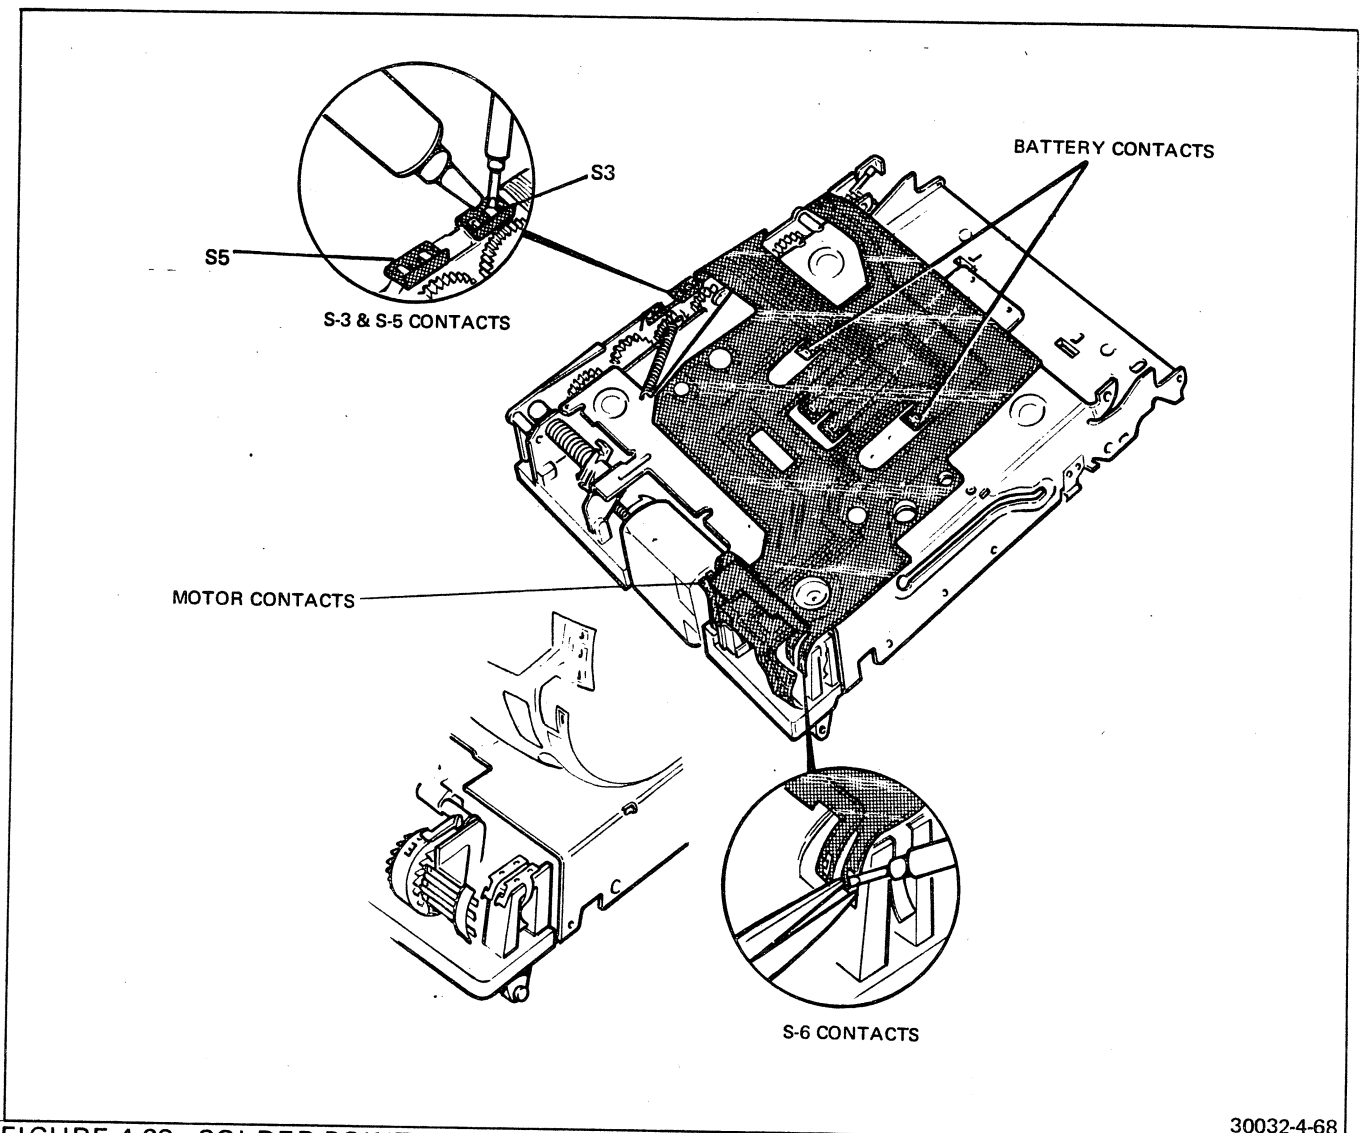

FIGURE 4-68 SOLDER POINT IDENTIFICATION
12. Dress the end of the flex circuit tab between the third switch contact and the inner surface of the frame. See Figure 4-68.